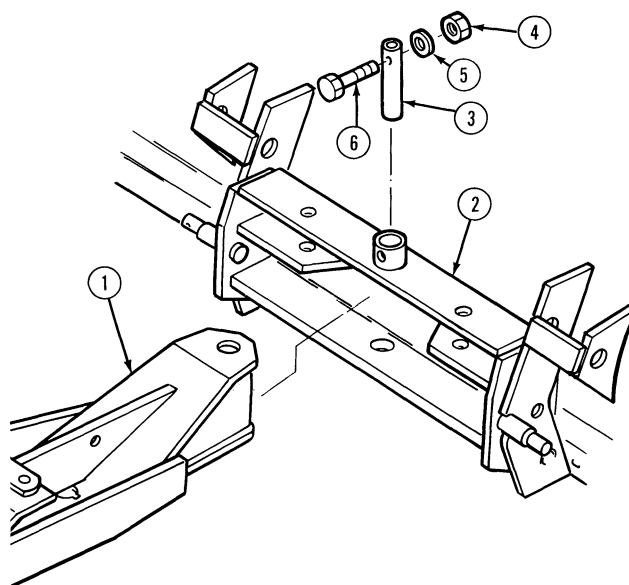

Figure 17
1. With the forward frame, (1), still blocked up approximately 5", slide the blade, (2), toward the forward frame and secure using a 1-1/4" dia. x 7-3/4" pin, (3), 1/2" NF x 2-1/2" hex hd. bolt, (6), lockwasher, (5), and nut, (4), as shown in Figure 17. Torque the bolt to 80-96 lbs.-ft.